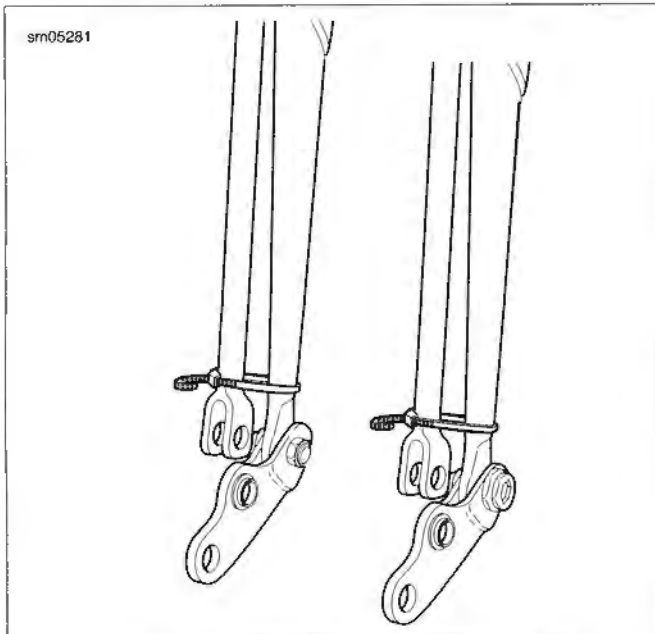

Figure 1-50. Nylon Ties on Fork Legs
To perform this adjustment, the spring fork must be secured to the rigid fork. Use cable ties to tie wrap the fork legs in place as shown in Figure 1-50. The spring fork can be disconnected from the rockers without removing the front end from the motorcycle.
3. See Figure 1-50. Use cable ties to secure the spring fork legs to the rigid fork legs.